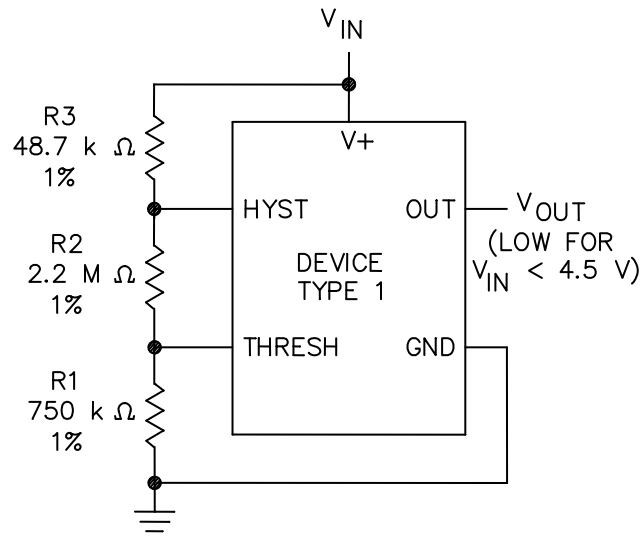

FIGURE 6. Logic supply low voltage detector.
3.5.6 Logic supply low voltage detector. The logic supply low voltage detector shall be as shown in figure 6.